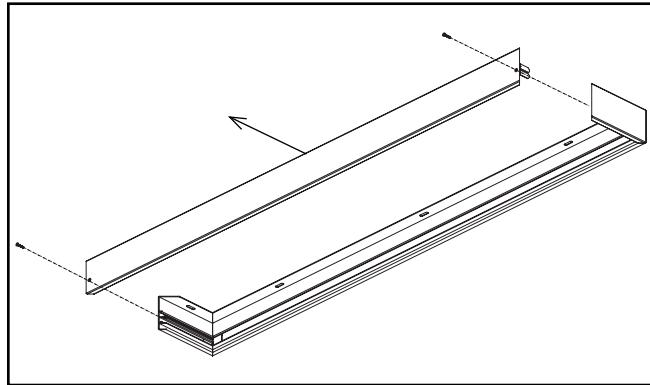

Figure 6.
- A6. Unscrew and remove the long rail that is not attached to the surface, as well as the L-brackets, and retain for reuse. (Figure 6.)